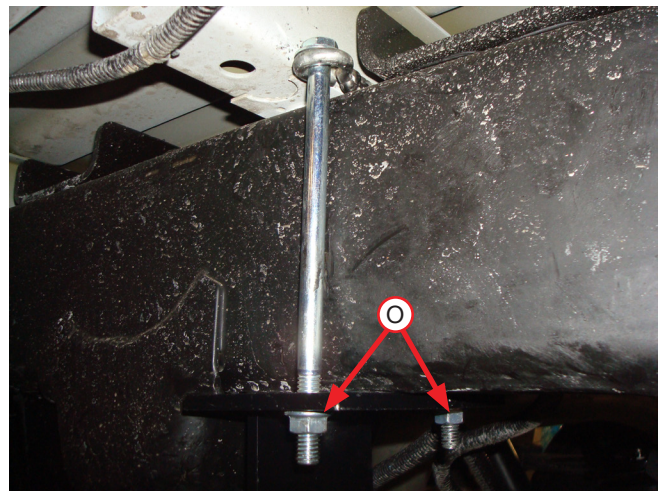

Fig. 24
- Rotate the new "U-bolt" down and through the upper bracket holes behind the axle. Install the 3/8" serrated flange lock nuts (O) onto the U-bolt (Fig. 24). Install the passenger's side U-bolt assembly and leave both sides loose at this time.
- Install the U-bolt (L) from the outside of the frame, over the jounce bumper mounting cup, and through the upper bracket on the inside of the frame. Attach the U-bolt with the 3/8" serrated flange nuts (O) and leave loose at this time (Fig. 24 & Fig. 25).